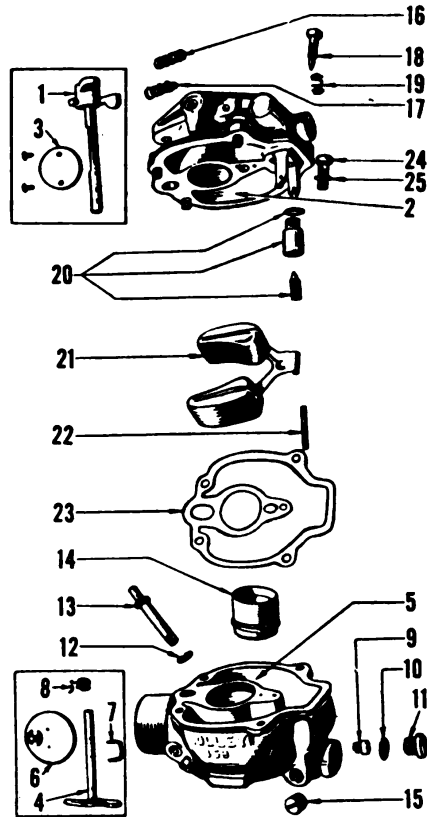

Figure 23. Exploded view of carburetor.
b. Remove the four screws (24, fig. 23) and washers (25), and separate the upper and lower carburetor bodies. Remove and discard the gasket (23). Remove the float axle (22), float assembly (21), needle valve and seat assembly (20), idle adjusting needle (18), idle adjusting needle spring (19), throttle stop screw (16), and spring (17) from the upper carburetor body.
c. Remove the drain plug (15, fig. 23), venturi (14), main nozzle (13), main nozzle gasket (12), main jet plug (11), main jet plug gasket (10), and main jet (9) from the lower carburetor body.
d. Remove the choke return spring (8, fig. 23), choke plate pin (7), and choke plate (6) from the choke shaft in lower carburetor body (5). Remove choke lever and shaft assembly (4). Remove the two throttle plate screws, and throttle plate (3) from the throttle shaft in the upper carburetor body (2). Remove the throttle lever and shaft assembly (1).
a. Place the throttle lever shaft (1, fig. 23) in position in upper carburetor body (2), and place throttle plate (3) on shaft. Line up holes in plate (3) with holes in lever and install two plate screws. Place choke lever and shaft assembly (4) in position in lower carburetor body (5). Position choke plate (6) on shaft (4) and install plate pin (7). Install choke return spring (8).
b. Install main jet (9, fig. 23), main jet plug gasket (10), main jet plug (11), main nozzle gasket (12), main nozzle (13), venturi (14), and drain plug (15) in lower carburetor body.
c. Install throttle stop screw spring (17, fig. 23), throttle stop screw (16), idle adjusting needle spring (19), idle adjusting needle (18), needle valve and seat assembly (20), float and lever assembly (21), and float axle (22) to the upper carburetor body.
d. Position carburetor body gasket (23, fig. 23) and upper body assembly on lower body, and secure with four washers (25) and screws (24).